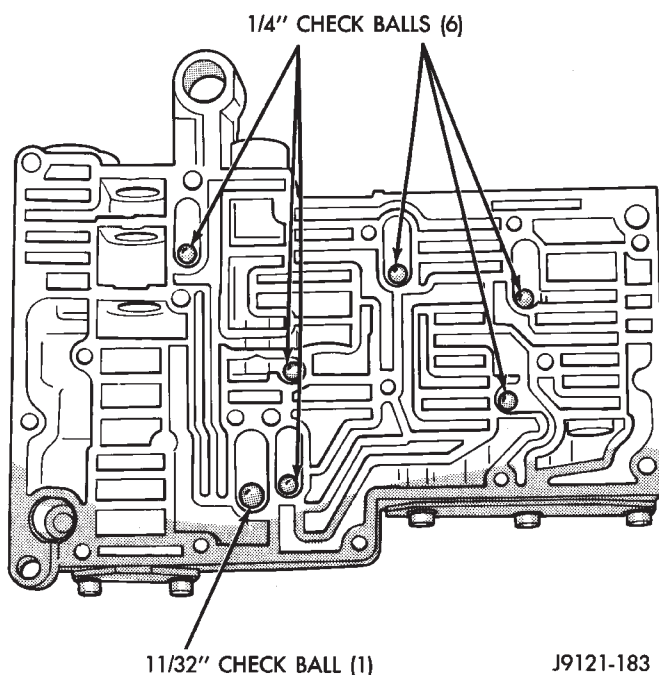

Fig. 121 Correct Position Of Valve Body Check Balls
(6) Position valve body so internal passages and check ball seats are facing upward. Then install check balls in valve body (Fig. 121). There are a total of seven check balls; The one large check ball is approximately 11/32 inch in diameter. The remaining check balls are approximately 1/4 inch in diameter. Note that check balls will be steel on some very early production models and plastic on later production models.
(7) Align and install assembled transfer and separator plates on valve body. Install and tighten valve body screws alternately in a diagonal pattern to 4 N·m (35 in. lbs.) torque.